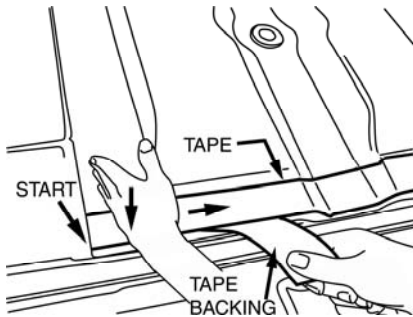

Figure 3
- 3) To install the protective tape, remove one edge of the tape backing and secure the tape at the starting location. While pressing downward with the side of your palm, use a continuously smooth motion to adhere the tape from one side of the truck bed to the other. Remove the tape backing with your other hand as you proceed. (See Figure 3). To avoid trapping air bubbles, apply moderate tension to the tape as you follow the contour of the floor. **Be sure to position the tape within the ramped area of the sheet metal between the termination line of the floor ribs and the end of the truck bed.**